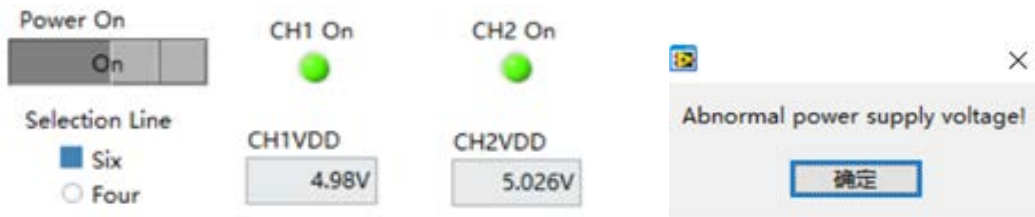

Figure 5.2.6 Indicator light steady on
- Click the button below "Power on" to power on the chip. When the power-on operation is successful, the power-on indicator light will stay green (Figure 5.2.6). If the power-on operation fails, a pop-up window will appear on the interface indicating a power-on exception (Figure 5.2.7). In this case, it is necessary to check the chip and hardware connections and then attempt the power-on operation again.